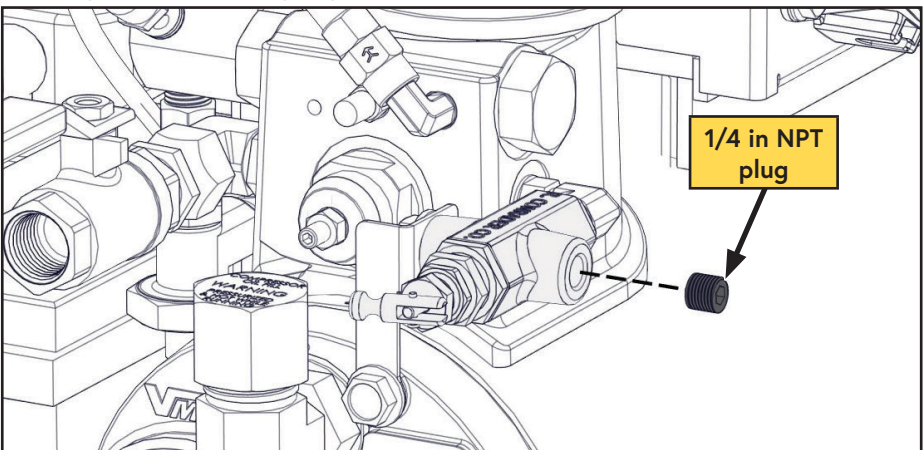

Figure 48 — Plug unloader valve
- ☐ Remove the push-to-connect fitting from the unloader valve and plug the valve using a 1/8 in NPT plug (Figure 48).
- ☐ Remove the 1/8 in NPT plug from the unloader valve and install the push-to-connect fitting (Figure 48).